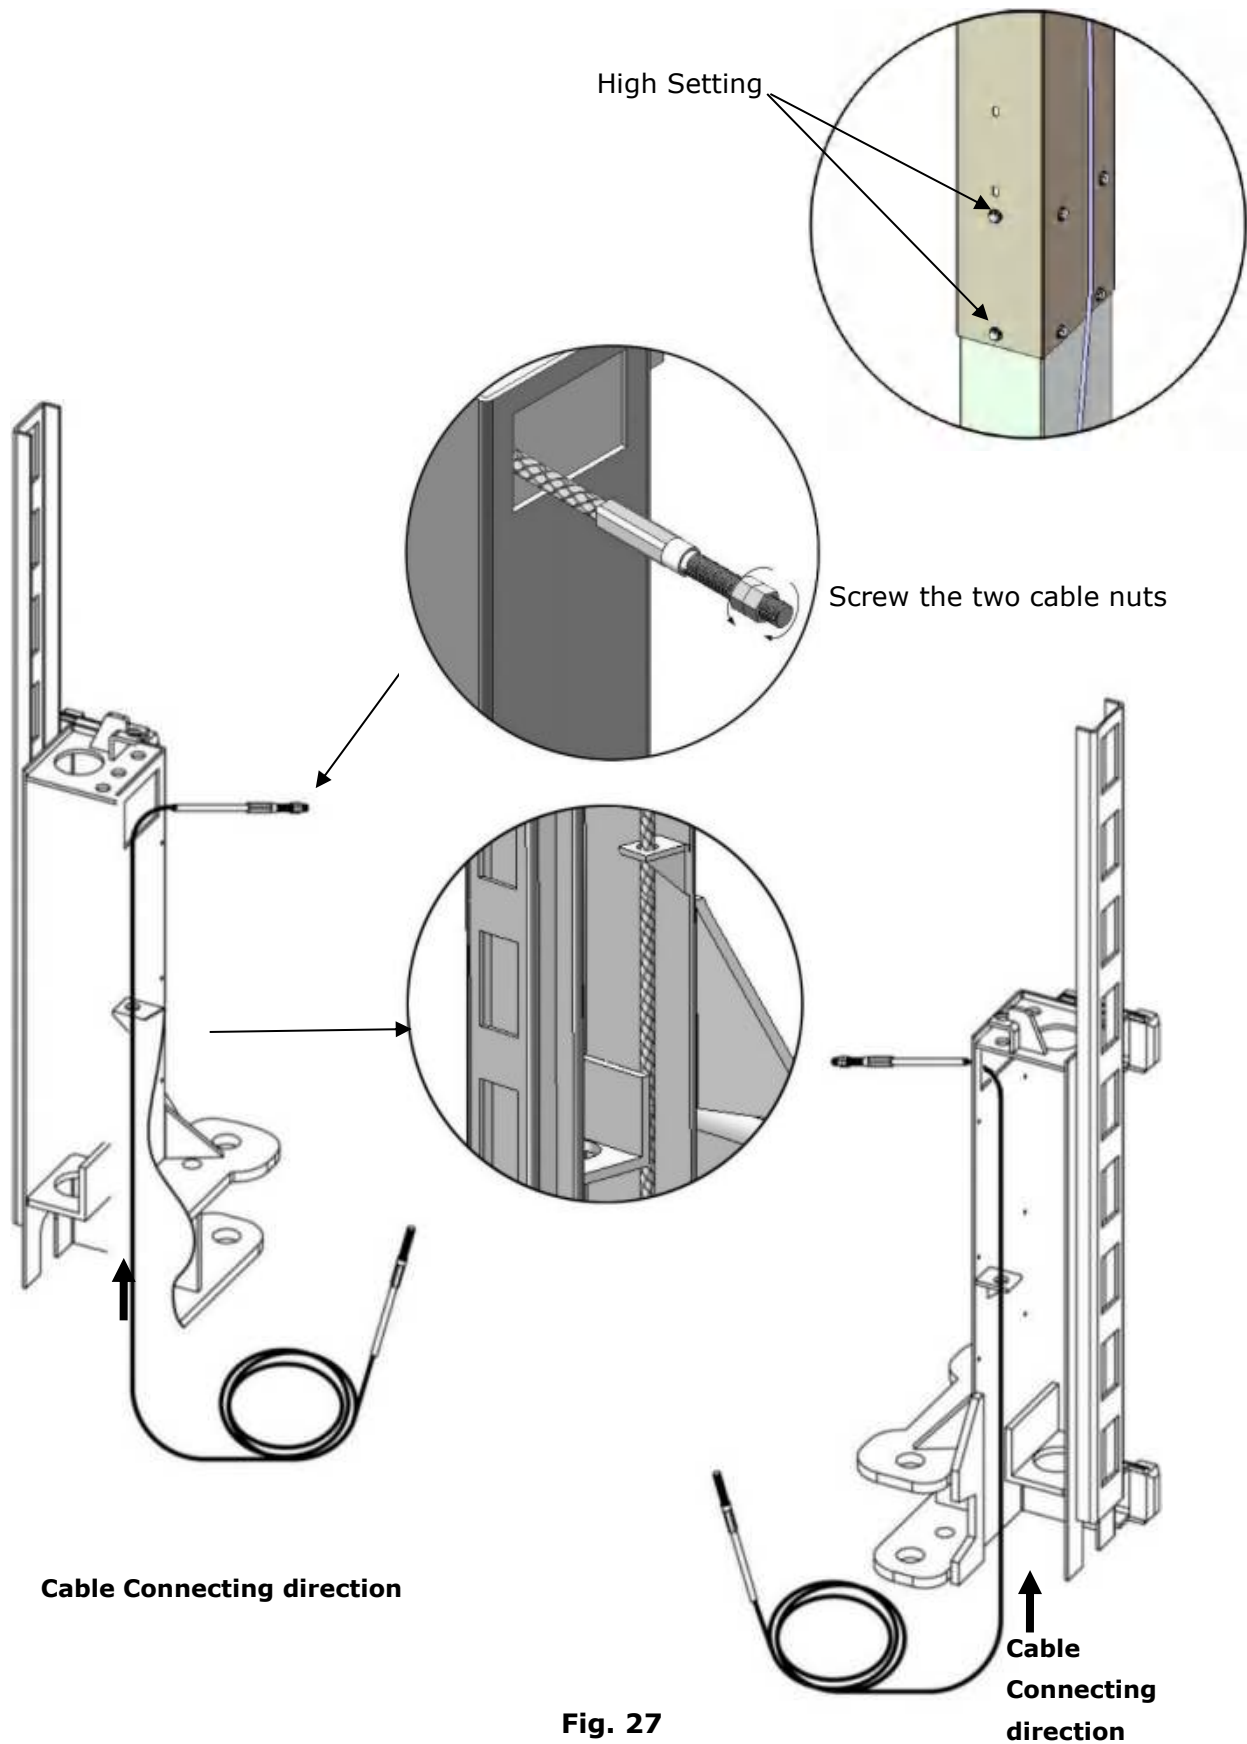

Fig. 27
2.1. Pass the cable from the bottom of the carriage to the carriage window, then screw up the 2 cable nuts together. **(See Fig. 27).**